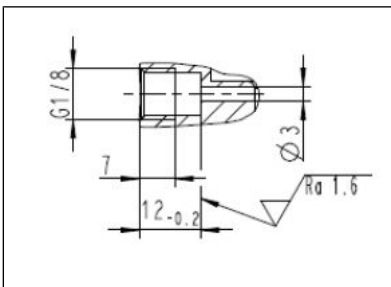

Fig. 13 Sectional drawing of hole for pressure monitoring
- KNF recommends monitoring the innerspace between the working diaphragm and the safety diaphragm (see Fig. 4) through the hole(s) (see Fig. 13) in the intermediate ring for a change in pressure or the presence of gas. If the pressure changes in the innerspace, the pump is to be stopped immediately.